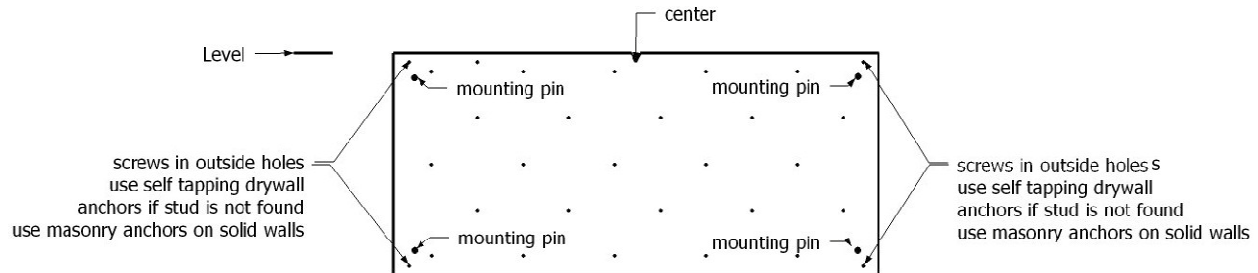

Figure 1
3. Place the Installation Plate along the horizontal line and line up the center “V” cut out with the center line. **See Figure 1.**
7. The mounting plate has four location pins, one at each corner of the plate. **See Figure 1.**